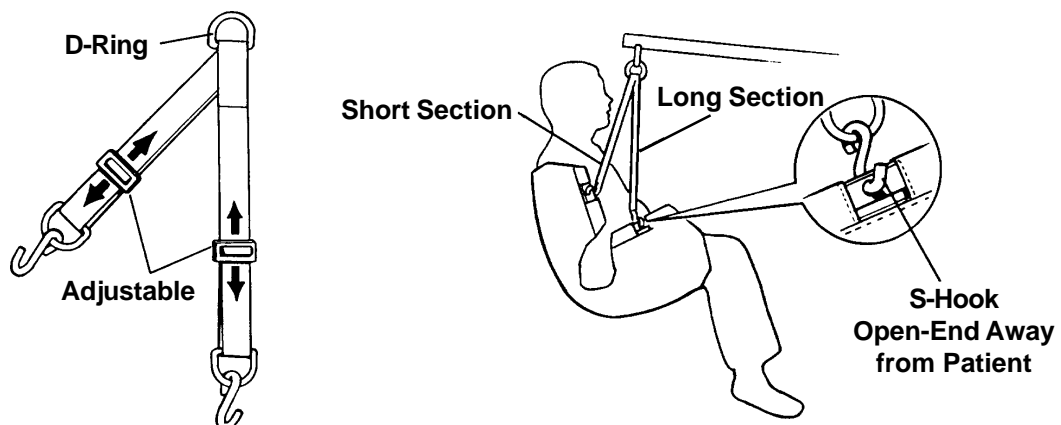

FIGURE 2 - ATTACHING THE HARDWARE TO THE SLING
1. With the patient laying on his/her back and positioned properly in the sling, lay the chains or straps on the bed next to the sling (FIGURE 2).
4. The "S" hook **MUST** be inserted through the hole in the support bar with the open end facing away from the patient (FIGURE 2).